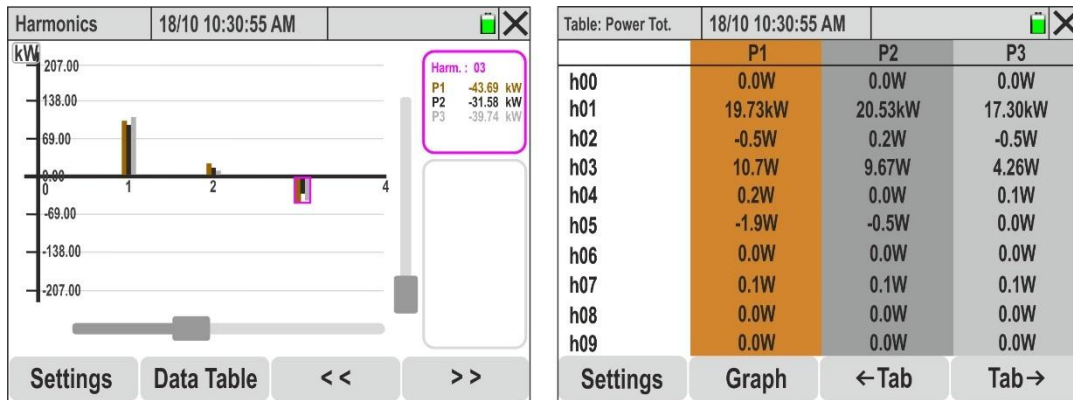

Fig. 59: Harmonic analysis of the active powers
21. **When the 3 active powers are selected**, the bar graphs of the quantities P1, P2 and P3 are shown in Fig. 59 – left part
23. Touch the "Data Table" key to switch from the numeric display. The screen in Fig. 59 – right side is shown on the display. The parameters "hxx" indicate the amplitude of the power harmonic xx, for each selected channel